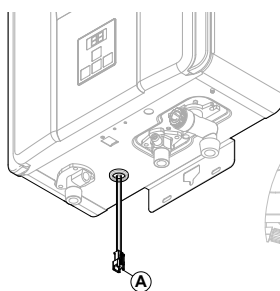
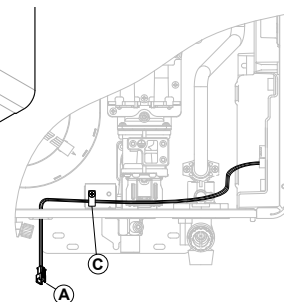

Fig. 1
Fig. 2
3. Pass sufficient cable through the hole in the casing (Fig. 1); connect the terminal end to the electronic board and fix it to the body © (Fig. 2);